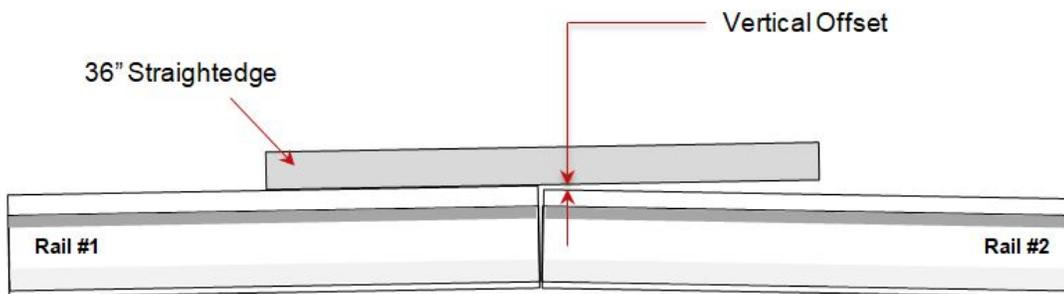

Figure 112B Vertical Offset
* If rail height difference is greater than 0.125 inch, offset top of rail and grind. Any offset on the top of rail must be tapered to provide a smooth transition. All measurements to be taken with straightedge centered on weld. (See Figures 112B – 112H)